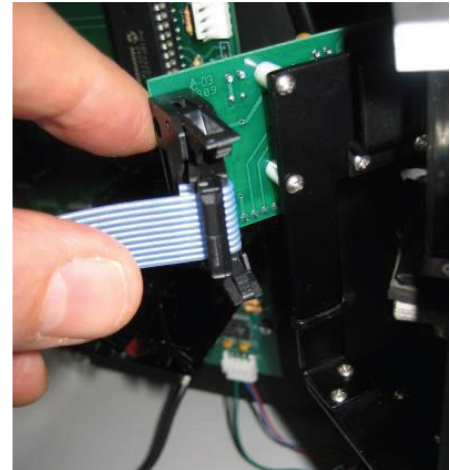

Figure 5.7: Orient ribbon cable
1. Position the flex ribbon connector to the rotating arm as shown in Figure 5.7.